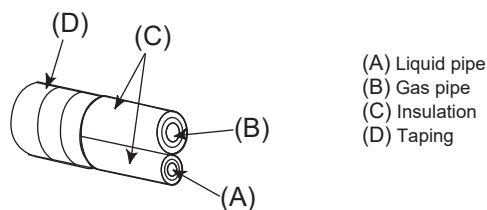
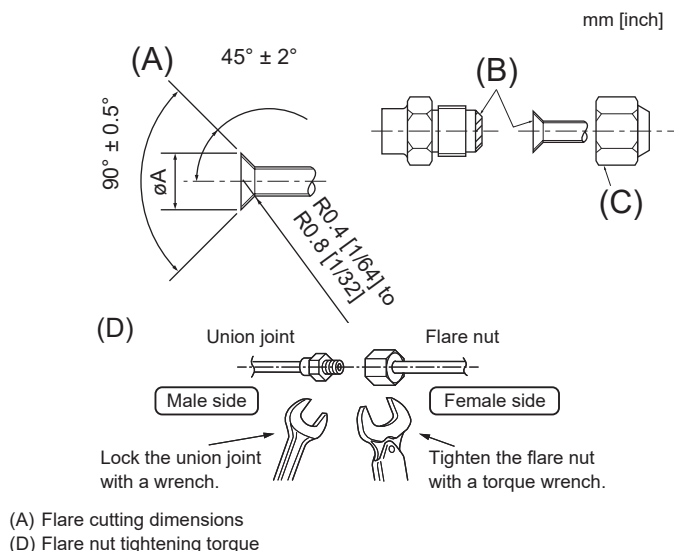

Fig. 4-1
Fig. 4-2
(A) (Fig. 4-2)
(B) (Fig. 4-2)
4.2. Connecting pipes (Fig. 4-1) (Fig. 4-2)
When commercially available copper pipes are used, insulate both the liquid and gas pipes separately with commercially available insulation materials (heat-resistant to 100 °C, 212 °F or more, thickness of 12 mm, 1/2 inch or more). (Fig. 4-1)
- The indoor parts of the drain pipe should be wrapped with polyethylene foam insulation materials (specific gravity of 0.03, thickness of 9 mm, 23/64 inch or more). (Fig. 4-2)
- Apply thin layer of refrigerant oil to pipe and joint seating surface before tightening flare nut. (A)
- Apply refrigerating machine oil over the entire flare seat surface. (B)
- Use the flare nuts for the following pipe size. (C)
- Use 2 wrenches to tighten piping connections. (D)